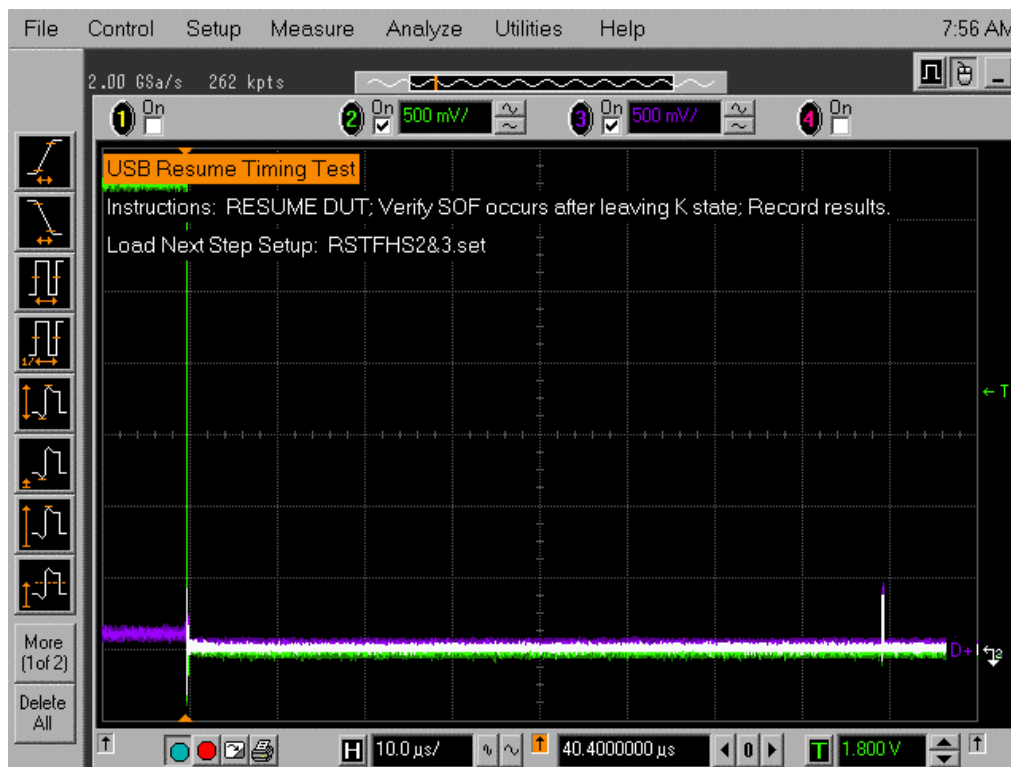

Figure 23. Device Resume to Hi-Speed
- b. The captured resume transition should appear as in Figure 23.
10. The device should resume the HS operation, which is indicated by the presence of HS SOF packets (with 400mV nominal amplitudes) following the K state driven by the host controller, as shown in Figure 23